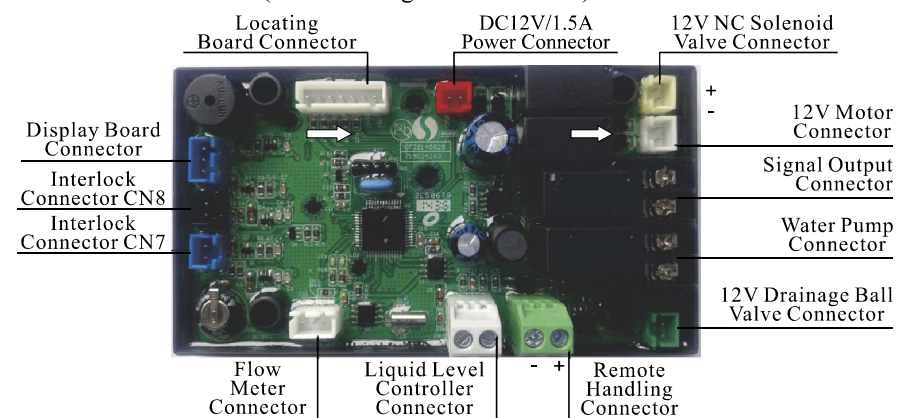

Figure3-1A
A. F67/F71 control board (As below Figure 3-1A shows)